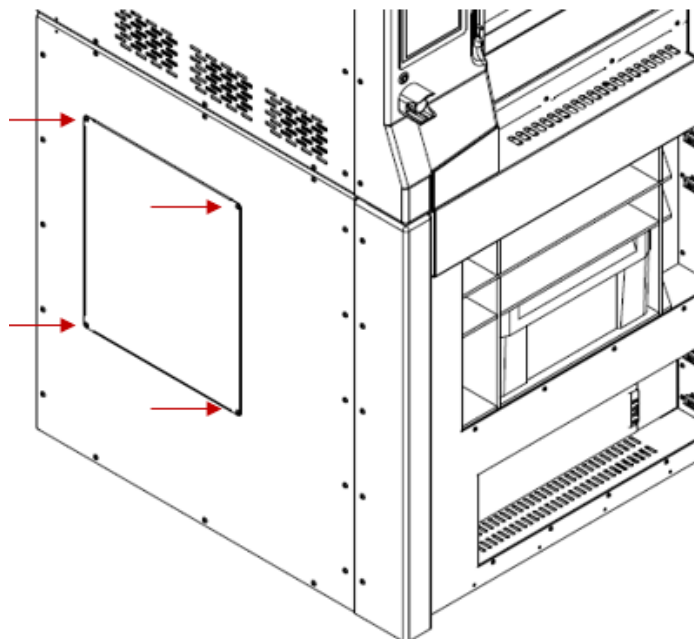

Fig. 128a Lower left printer cover (INDUSTRY F421)
2. For INDUSTRY F421: Remove the bottom cover on the left side of the printer by unscrewing the screws holding it in place (Figure 128a).